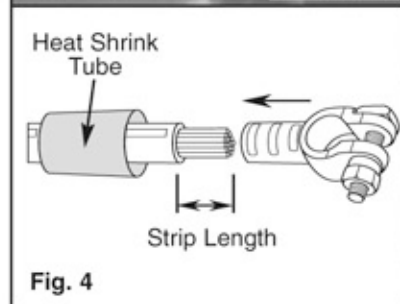

Fig. 4
3. Strip the cable insulation according to the recommended length of your connector. (See Fig. 4) Typically, battery connector is 7/8" (22mm), MagnaLug is 3/4" (19mm), SB is 1-1/8" to 1-3/8" (29 to 35mm). If you are using heat shrink tubing and/or a boot, slide it over the cable **before** applying the connector. (Fig. 4)